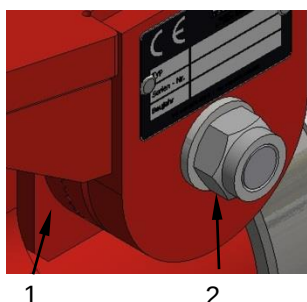

Figure 21 Inclination angle
The angle of inclination and thus the working depth is adjusted by means of the fine serrated disk (Figure 21, item 1) by loosening the screw connection (item 2).